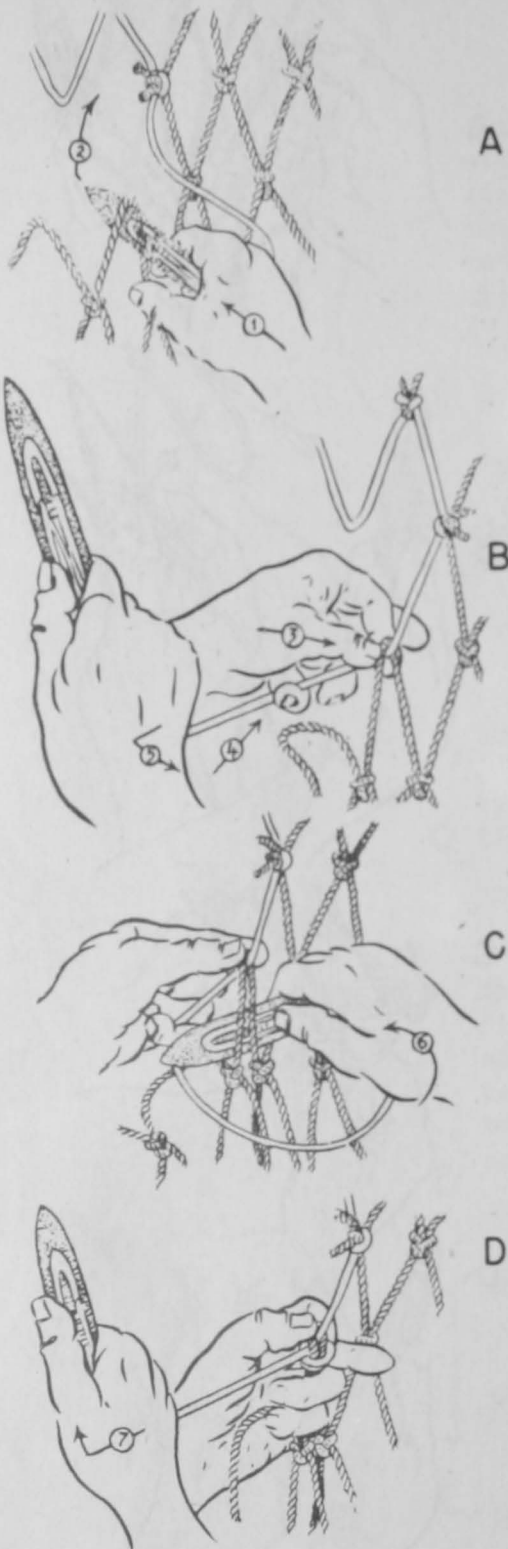
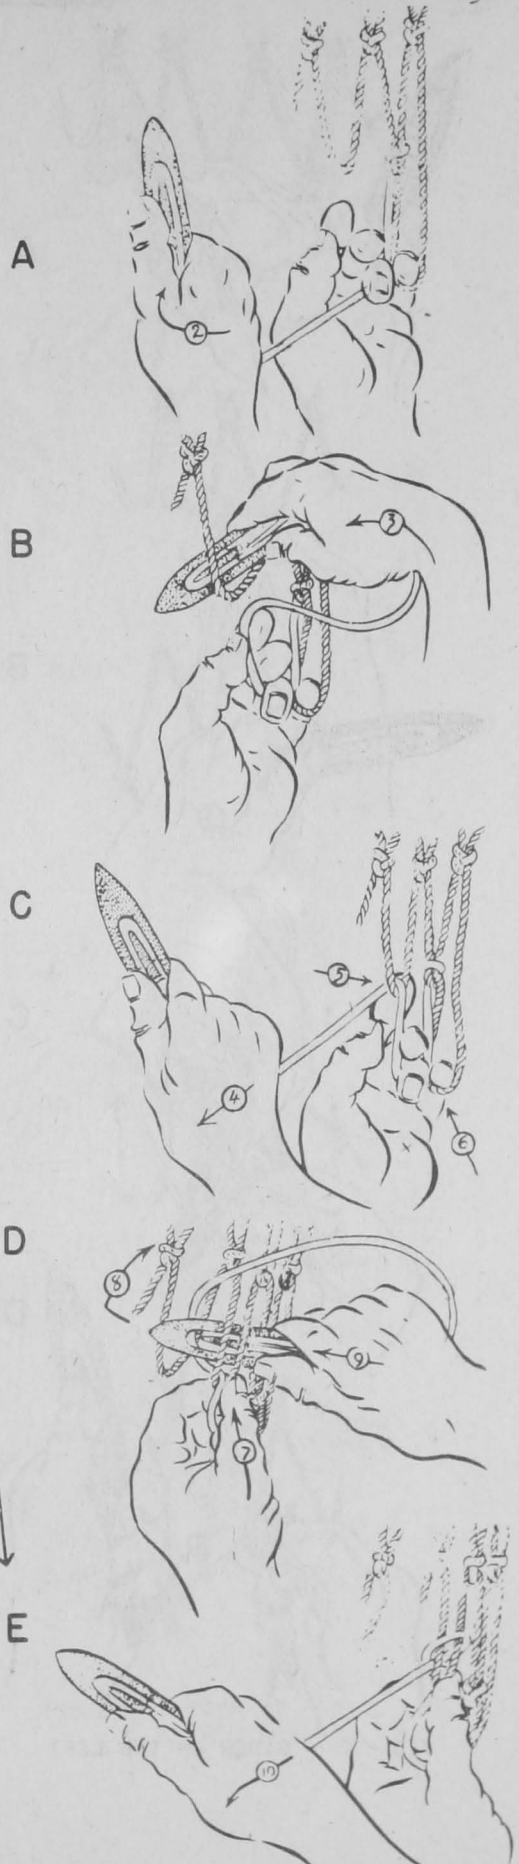
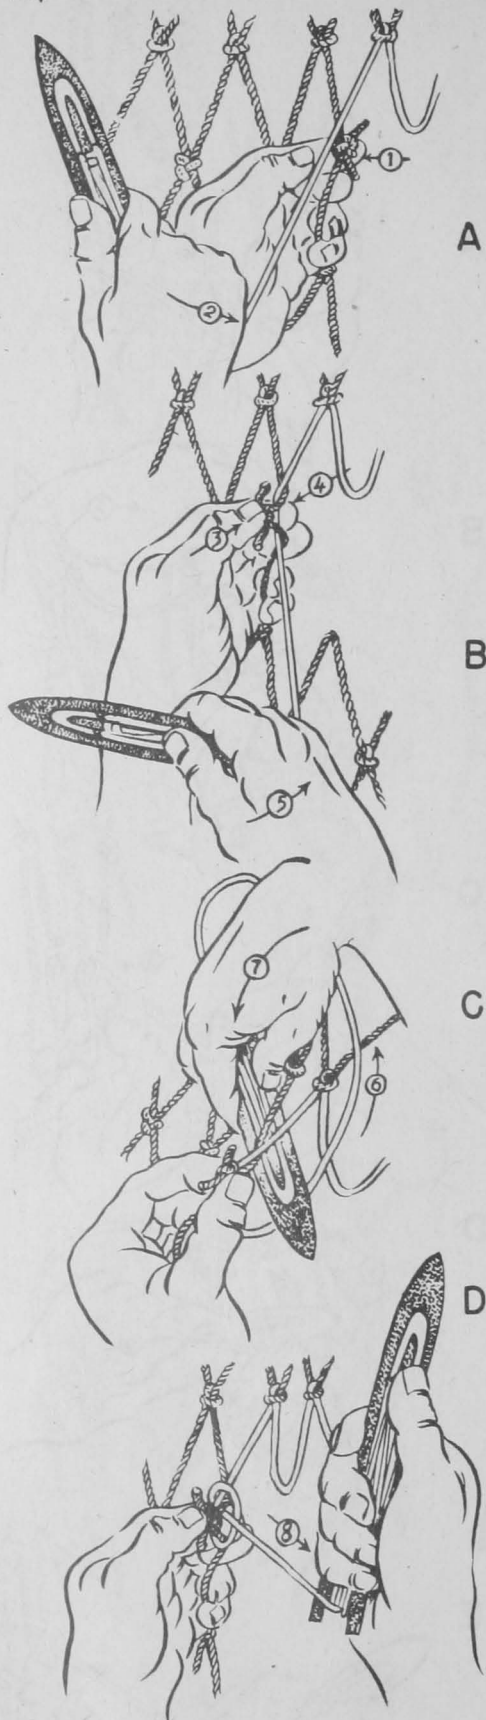
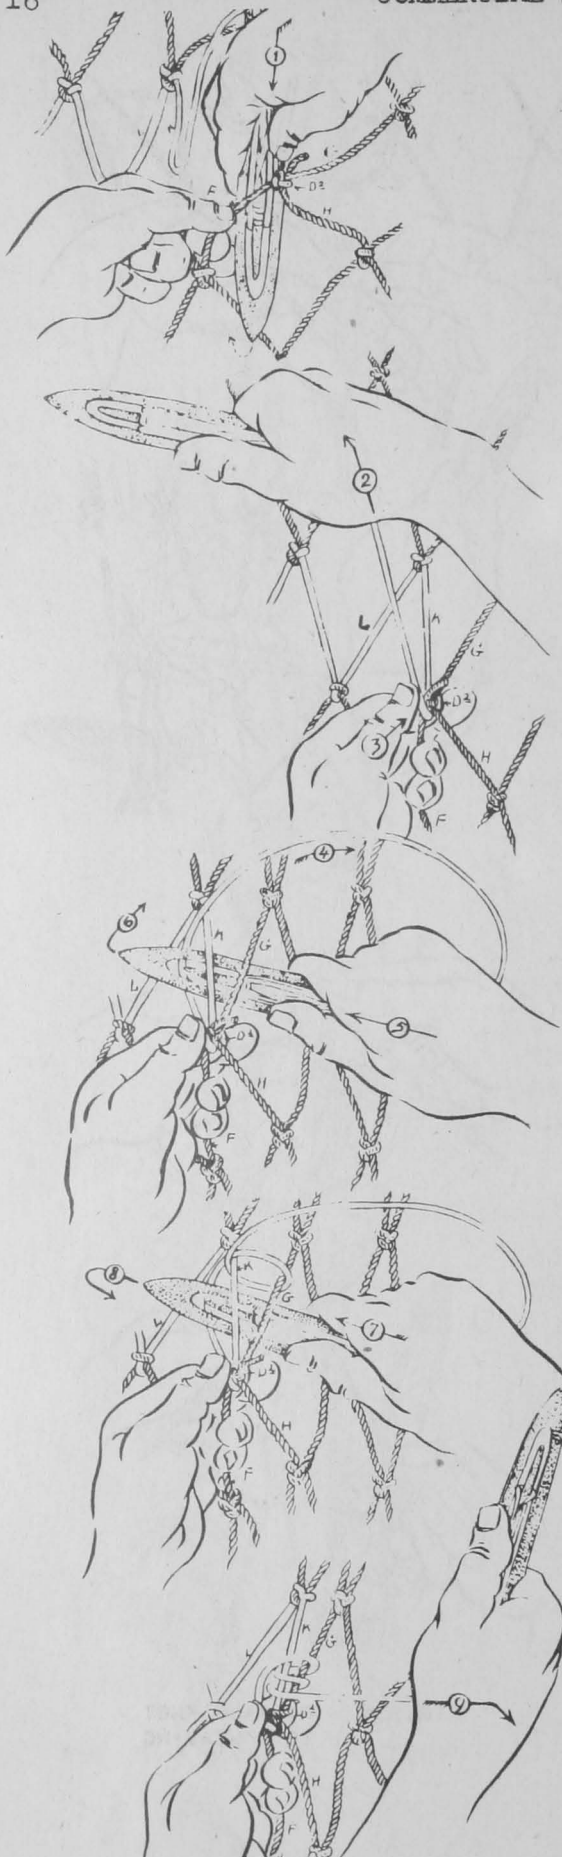

FIG. 29 - PICK-UP KNOT
FIG. 31 - HALF-MESH KNOT R TO L WEAVING
FIG. 33 - SIDER ON THE LEFT
FIG. 37 - FINISHING KNOT
and mend from right to left. First the needle is shuttled through the pick-up mesh (5), (also see Figure 29), and then through the half mesh (6), (also see Figure 31), through another half mesh (7), and then downward to the sider on the left (8), (also see Figure 33), which is the indicator to reverse again and mend from left to right. Now the needle is shuttled through the pick-up mesh (9), (also see Figure 35), then through the half mesh (10), (also see Figure 25), and then downward to the finishing three-legger (11), (also see Figure 37). This completes the mending.